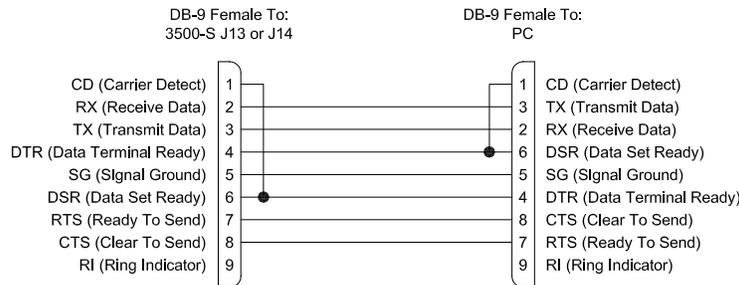

Figure 4. 3500-S RS-232 CPU Link (Null Modem) Cable
- COM 1 is the primary RS-232 CPU Link and may be connected to the PC running Win3500 Control System software with a null modem cable (Part No. 81-9028-0393-0). If necessary, a cable up to 50 feet in length may be fabricated in the field as shown in Figure 4. COM 1 may only be used with the P1E protocol, and only at 9600 baud.